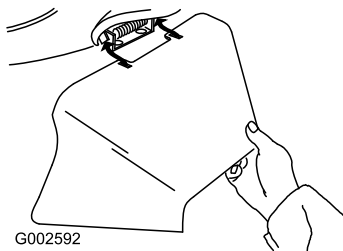

Figure 35
3. Install the side discharge chute and close the door onto the chute (Figure 35).